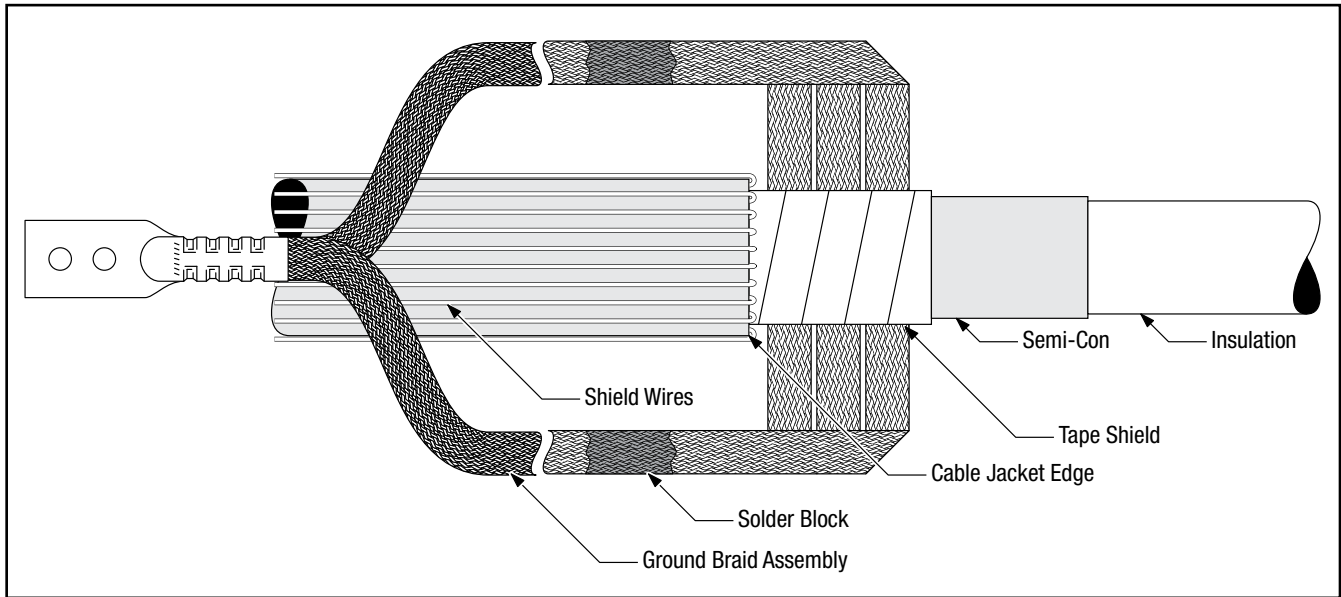

Figure 12
- 4.1 Fold the shield wires back along the cable jacket. Select the pre-formed ground braid assembly from the kit. Pass the end of the cable through the ground braid assembly loop, and position the ground braid assembly around the tape shield as shown. (*Figure 12*)